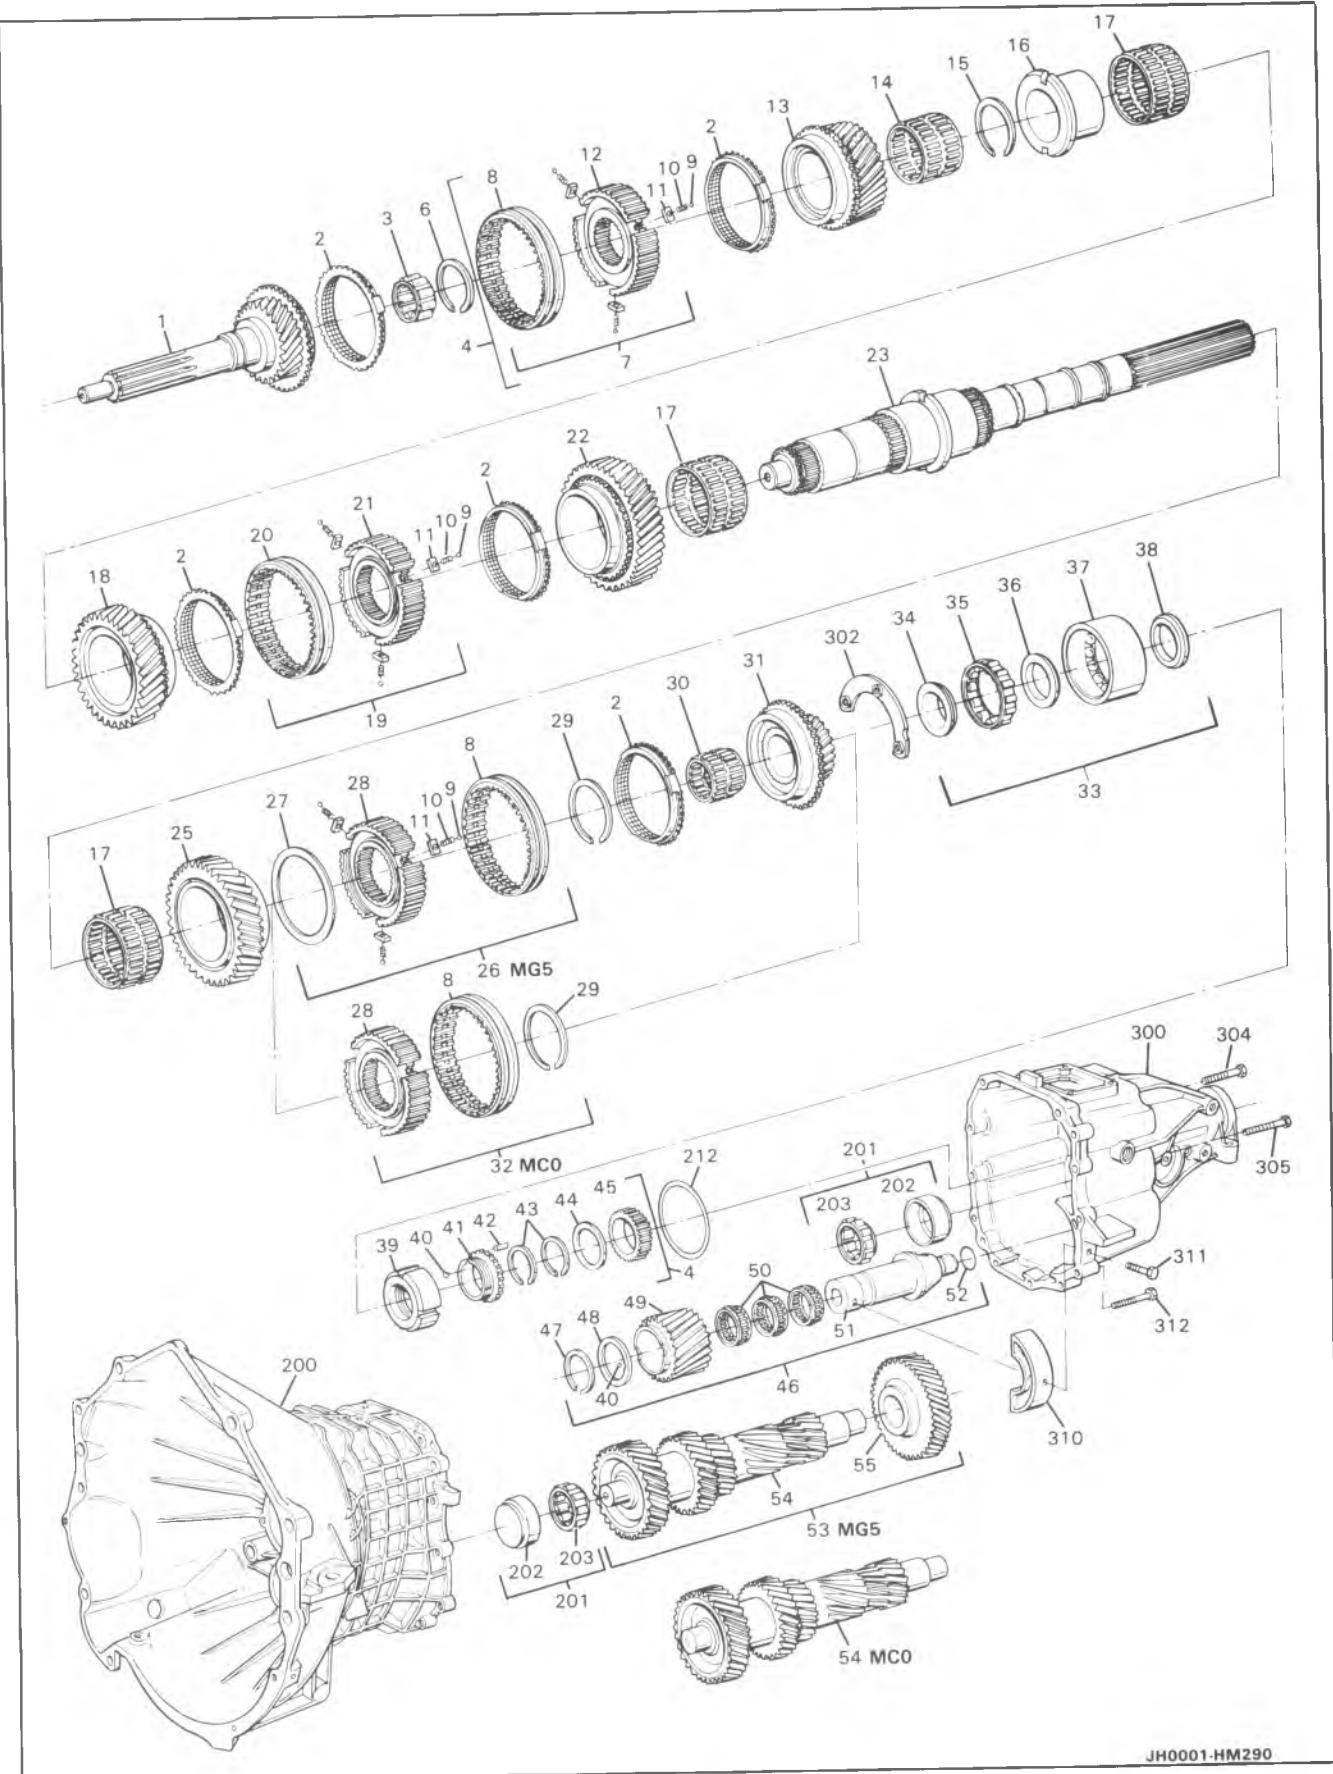

Figure 1 Transmission-2WD Gear Components
-  Remove or Disconnect (Figure 1, 2, 3 and 4).